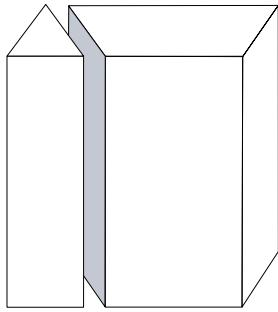

Fig. 5
- First make a mitre cut with the corresponding roof pitch (see Mitre cuts Fig. 5–7).